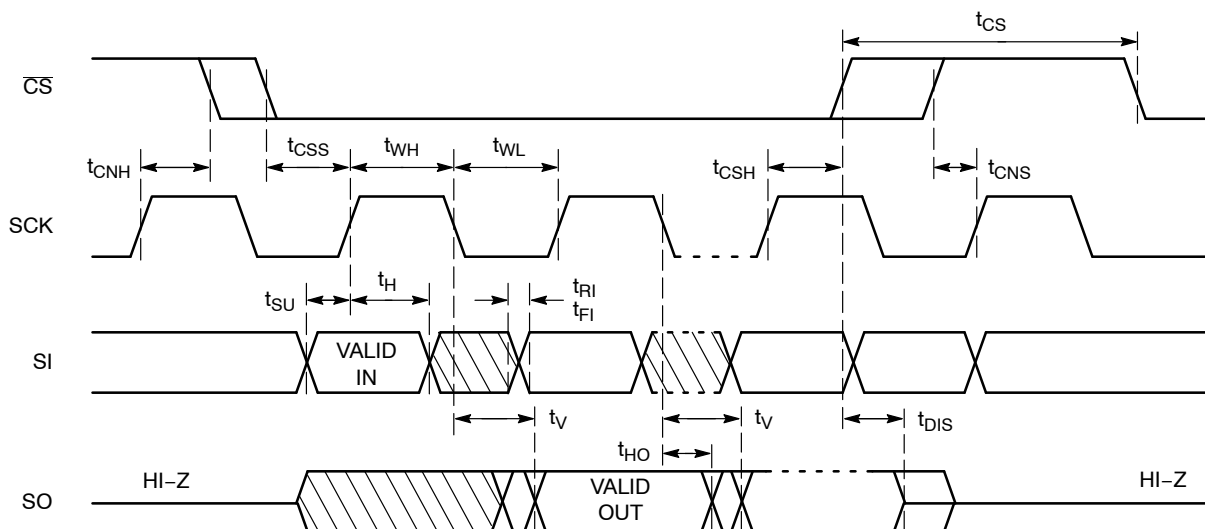

Figure 2. Synchronous Data Timing
9. All Chip Select (CS) timing parameters are defined relative to the positive clock edge (Figure 2). t_{C_{SH}} timing specification is valid for die revision D and higher. The die revision D is identified by letter "D" or a dedicated marking code on top of the package. For previous product revision (Rev.C) the t_{C_{SH}} is defined relative to the negative clock edge.
After a high to low transition on the $\overline{\text{CS}}$ input pin, the CAT25128 will accept any one of the six instruction op-codes listed in Table 10 and will ignore all other possible 8-bit combinations. The communication protocol follows the timing from Figure 2.